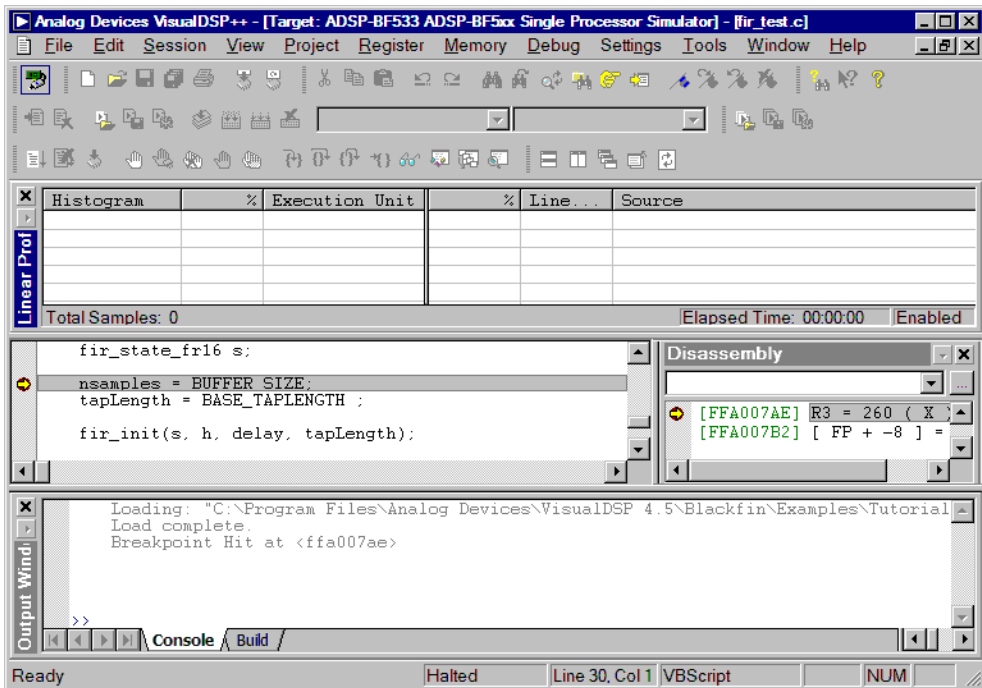

Figure 2-34. Linear Profiling Window (Empty)
If VisualDSP++ does not open an editor window (shown in Figure 2-34), right-click in the **Disassembly** window and select **View Source**.
2. Click in the profiling window's title bar and then drag and drop the window to the top of the VisualDSP++ main window, as shown in Figure 2-34. You will have a better view of the profile data.